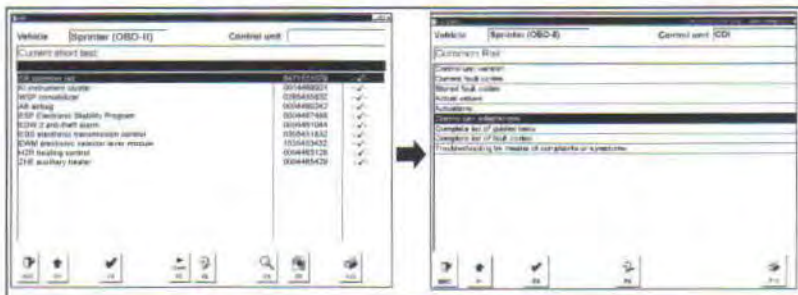

Figure 255 Current Short Test and Common Rail Screens
1. Select the CR Common Rail option in the Current Short Test screen. In the Common Rail screen select Control Unit Adaptations (Figure 255).